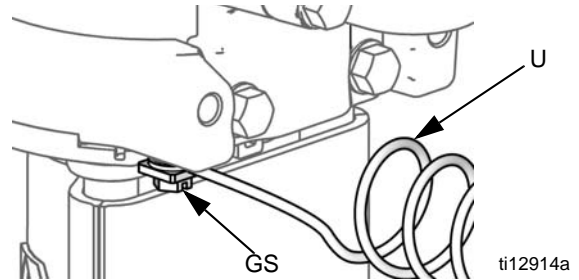

FIG. 2. Ground screw and wire
Pump: See FIG. 2. Verify that the ground screw (GS) is attached and tightened securely to the air motor. Connect the other end of the ground wire (U) to a true earth ground.